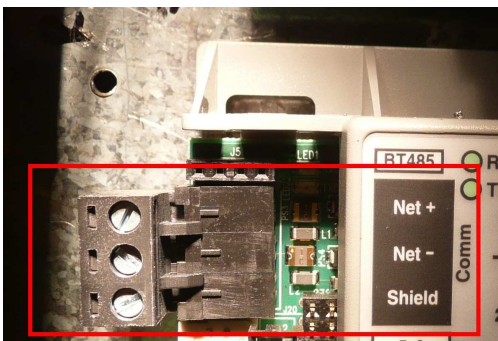

Fig. 1
2. For BACnet MS/TP, ARC156, N2, and Modbus, a shielded twisted pair network connection needs to be connected to the RS-485 port in the upper right hand corner of the controller. Please refer to the plug shown in Figure 1. For ARC156, there is an additional jumper in the center of the controller that needs to be moved from the factory location to that show in Figure 2.